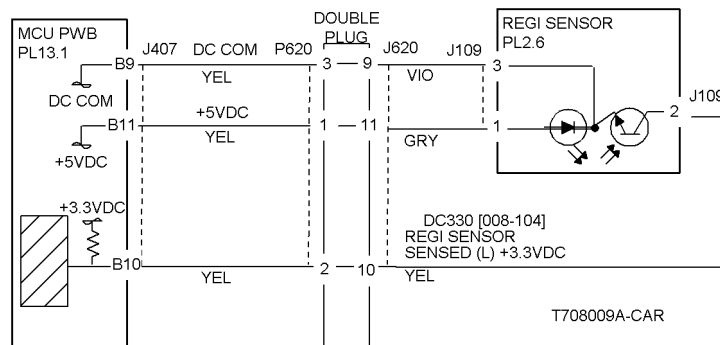
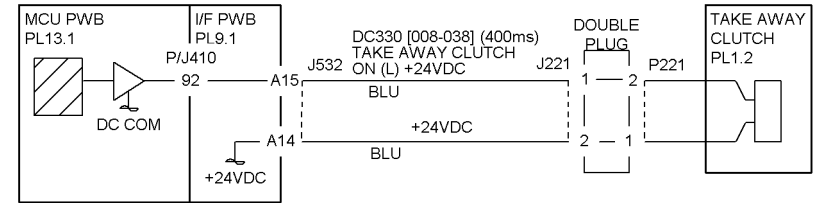

Figure 1 8-176 RAP Circuit Diagram - Registration Sensor
Figure 2 8-176 RAP Circuit Diagram - Takeaway Clutch
- Ensure that the connectors shown in the circuit diagrams (Figure 1, Figure 2) are securely connected and that the wires are not damaged.